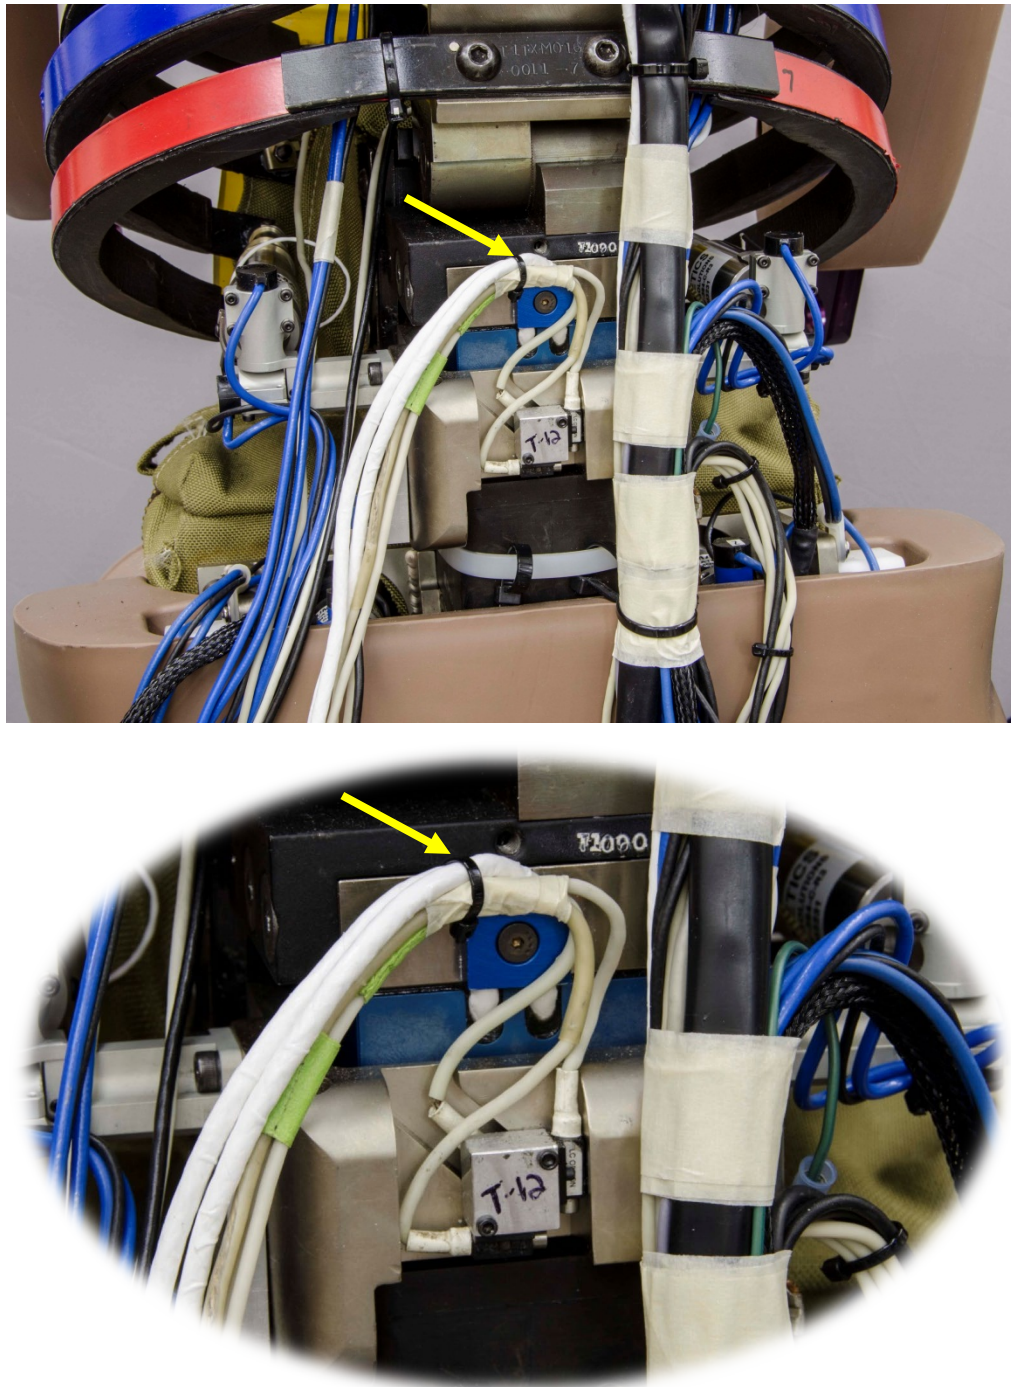

Figure 15-32. Thoracic spine load cell and T-12 accelerometer wiring bundle
15.4.3.5 Gather the wires from the thoracic spine load cell and the T-12 accelerometers and fasten them together with a tie-wrap (Figure 15-32). Position them towards the left side of the dummy.